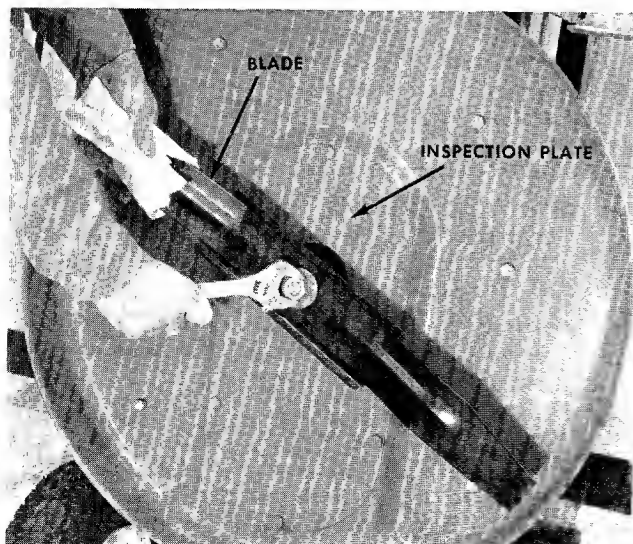

FIGURE 14. BLADE REMOVAL
Step 1. Remove the blade by removing the hex lock-nut in the center of the blade. Hold the blade with one hand and using a $\frac{7}{8}$ " open end, box or adjustable wrench, remove the nut. See figure 14.
- Step 2. Remove the blade by removing the hex lock-nut in the center of the blade. Hold the blade with one hand and using a $\frac{7}{8}$ " open end, box or adjustable wrench, remove the nut. See figure 14.
Step 2. Remove the blade by removing the hex lock-nut in the center of the blade. Hold the blade with one hand and using a $\frac{7}{8}$ " open end, box or adjustable wrench, remove the nut. See figure 14.